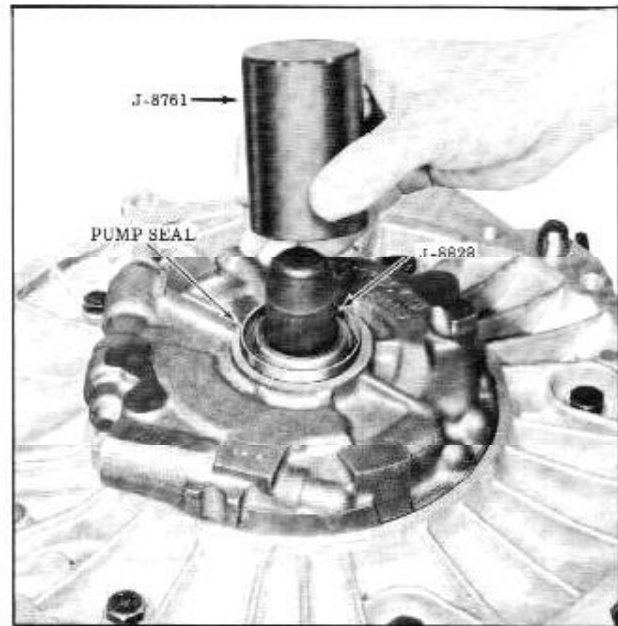

Figure 3-38 Installing Pump Oil Seal
- d. Install seal using Tool J-8761. (Fig. 3-38)